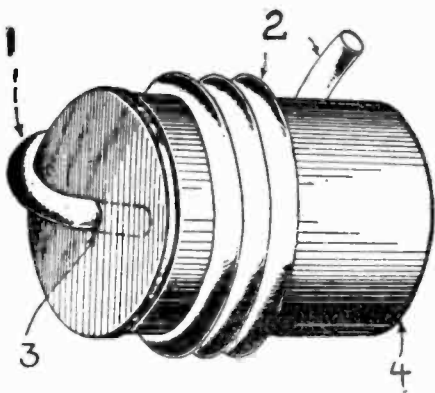

FIG. 4 Method of winding the inductances of copper tubing for the transmitter. See text for explanation of letters.
by employing the method illustrated in Fig. 4. A hole (3) that will accommodate the tubing is made near the edge of a good, stiff tin-can (4) and the tube inserted for about an inch. This part of the can is then held firmly against the bench while the tubing is bent securely around the circumference (2) of the can. Gradually rotate the can as the tubing is wound on with each successive turn securely against the preceding one. Wind both coils in one operation and cut them apart later. When the required number of turns is wound on, slip the tubing off. You will find that the final inside diameter of the turns is slightly over 4 inches, due to the spring in the copper. The small piece (1) that was inserted in the hole in the can may be straightened out or cut off as desired. If the tubing is rolled up, as it usually is when purchased, it should be straightened out before winding; otherwise small bends in the final winding will be noticed. To make the coils space-wound, each turn should now be separated from its neighbor by about 1/8 to 3/16-inch. Start at one end and gently pull each turn out till it remains at the required distance. Quite a neat job may be done if reasonable care is taken. The completed coils will be found to be very good electrically and very rigid, an important item.